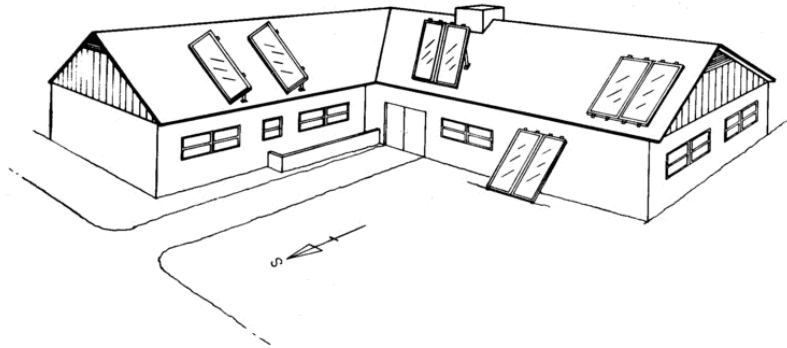

Figure 1
The collectors should be unshaded for the middle six hours of the day in each month of the year and should be located as close to the storage tank as possible to minimize heat loss in the piping runs. Figure 1, on page 6, shows many alternatives for collector mounting. When roof mounting, place the collectors approximately three (3) feet from any peak, hip, valley or roof edge. This will make installation easier due to increased attic access and will aid in minimizing wind load forces.